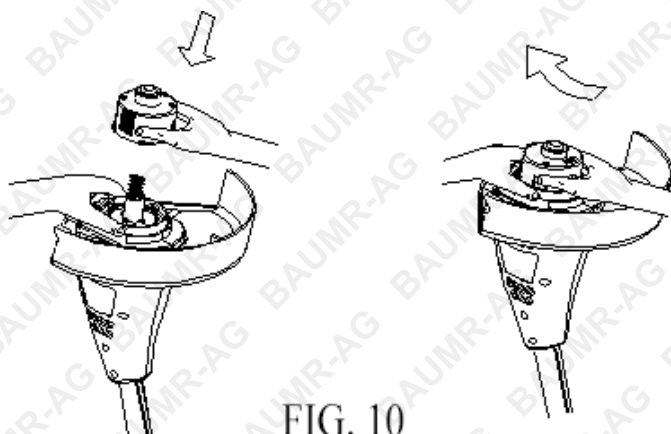

FIG. 10
6. Making sure to insert the spring, assemble the spool and spool carrier back onto the trimmer. To do so, push the head on and turn it clockwise until it locks (FIG. 10).